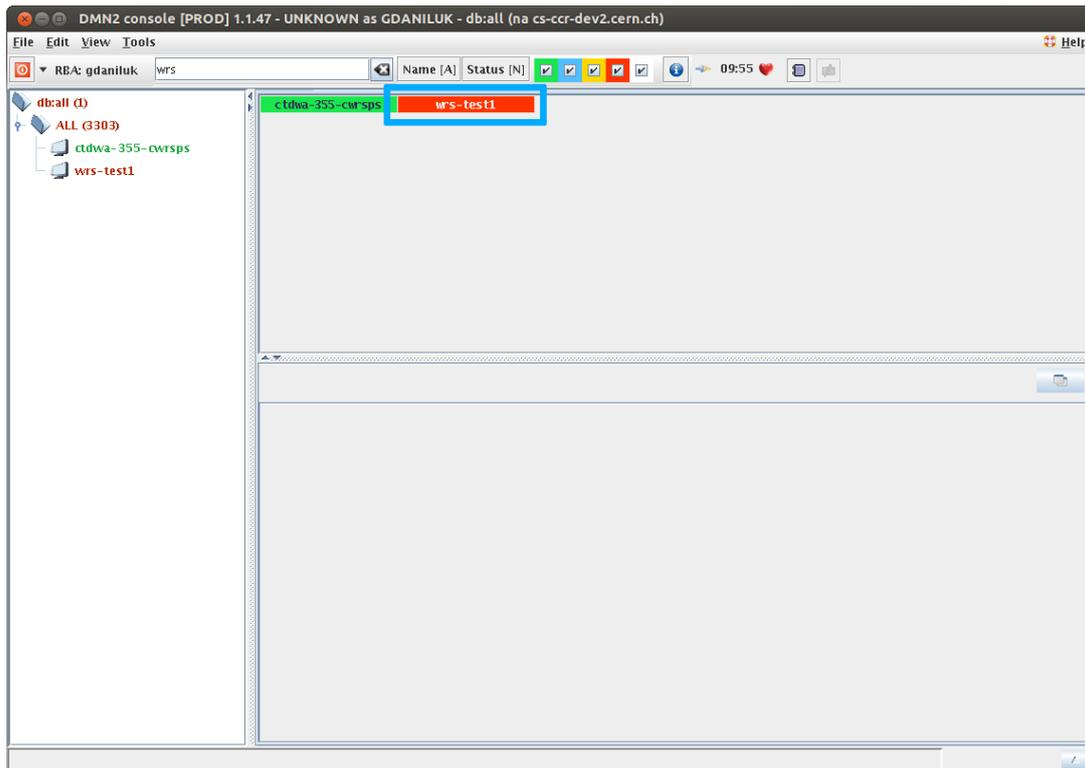

Figure 2: SNMP manager reports an error on a WR Switch
1. Operator gets an e-mail/sms alarm or notices in the SNMP manager that the status of a WR switch has changed to `Error` (fig.2)